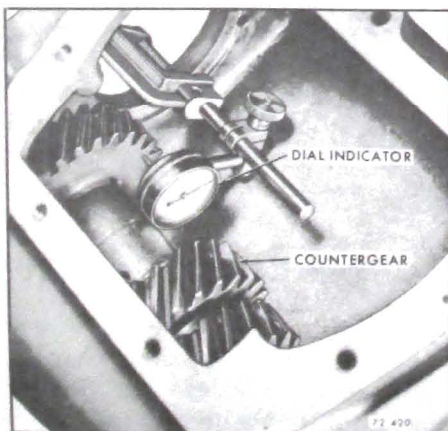

Figure 72-420 - Checking Countergear Alignment
5. Attach a dial indicator as shown in Figure 72-420 and check end play of countergear. If end play is greater